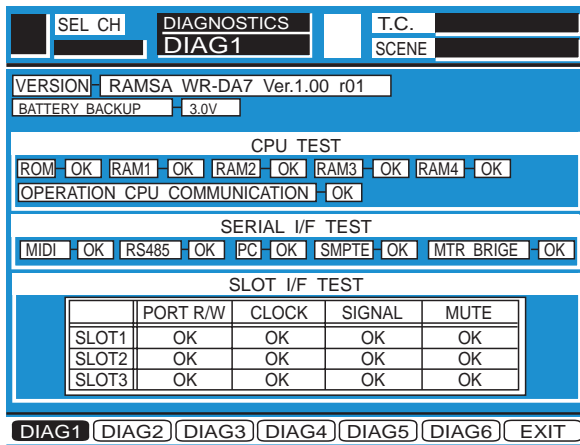

Fig. 3-1
- Turn the Power On while pressing the [SELECT] Key, [ON] Key of the MASTER LR and [3] Key of the TEN KEY simultaneously, the Self Check Function has been executed and the Diagnostic Menu 1 as shown in Fig. 3-1 is displayed on the LCD Display of the WR-DA7.
- Referring to Fig. 3-1, the Product Description and the Version of the Control Program will be displayed.
- Referring to Fig. 3-1, the remaining voltage value of the Memory Backup Battery will be displayed.
- Referring to Fig. 3-1, select the CPU TEST Item by either UP or DOWN Cursor Key.
- Referring to Fig. 3-1, select the SIR I/F TEST Item by either UP or DOWN Cursor Key.